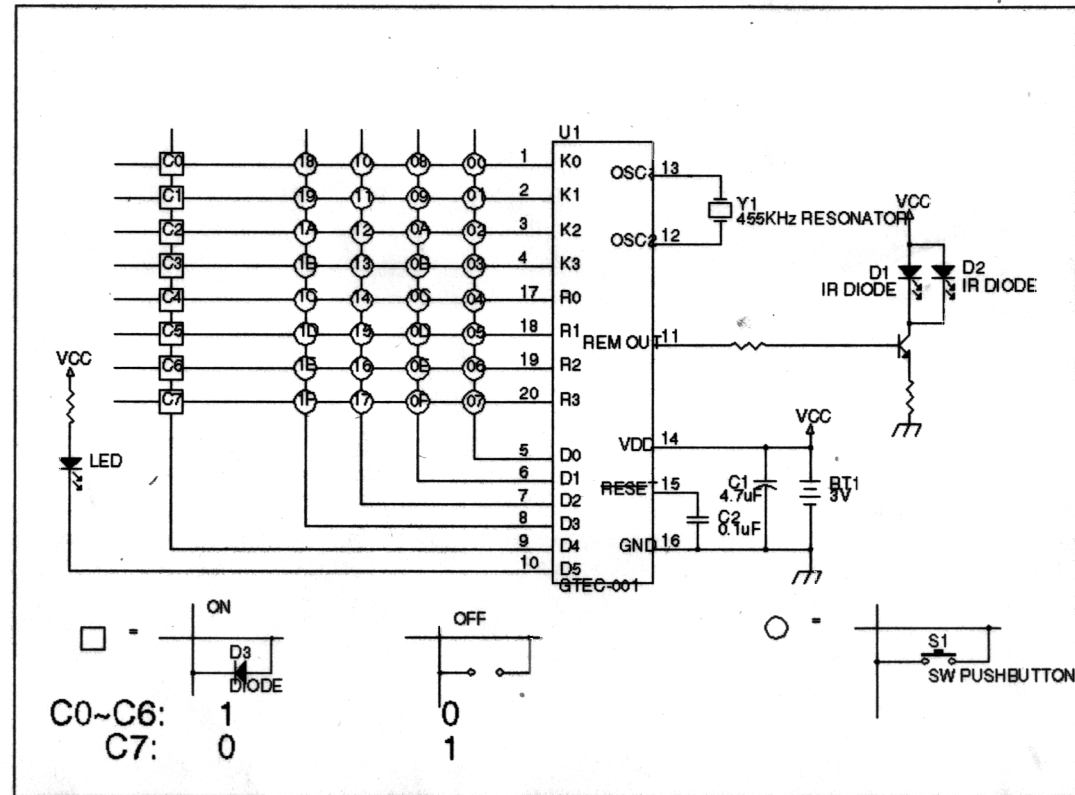

Figure 8. TC9243 CIRCUIT DIAGRAM
6.1. TC9243 mode will be accessed by connecting the circuit as figure 8 as below.